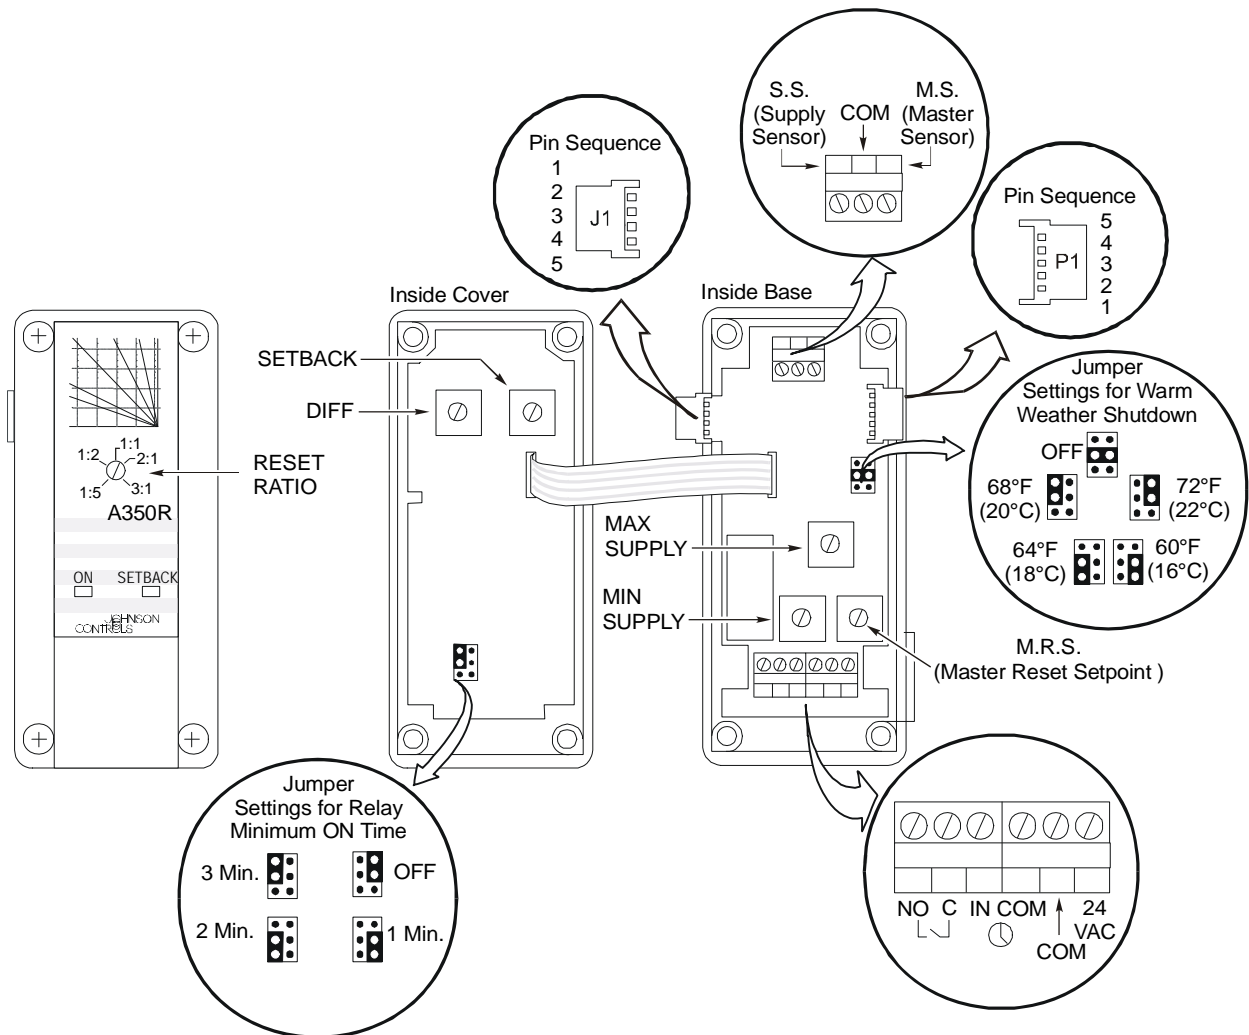

Figure 4: A350R Features
Reset ratio adjustment is made using the potentiometer marked RESET RATIO. Refer to Figure 4 for location.
Minimum supply temperature adjustment is made using the potentiometer marked MIN SUPPLY, and master reset setpoint adjustment is made using the potentiometer marked M.R.S. Refer to Figure 4 for locations.
Maximum supply temperature adjustment is made using the potentiometer marked MAX SUPPLY. Refer to Figure 4 for location.
The differential can be adjusted between 1 and 30°F (0.5 to 17°C). Adjustment is made using the potentiometer marked DIFF, as shown in Figure 4.
In addition to the differential, the relay operation is also affected by the selectable Minimum ON Time delay. Once the relay is energized, it remains energized until both the Minimum ON time has expired, and the supply temperature is equal to or greater than the calculated setpoint. The time delay applies only to the relay internal to the A350R. A jumper block, located on the cover mounted circuit board (refer to Figure 4), is used to select one of four minimum ON time delay settings: OFF, 1 min., 2 min., or 3 min.
A jumper block located on the base-mounted circuit board is used to select one of five shutdown settings. (Refer to Figure 4.) Available settings are OFF, 60°, 64°, 68°, and 72°F (OFF, 16°, 18°, 20°, and 22°C). Placing the jumper block horizontally across the center set of pins (OFF position) disables warm weather shutdown. As shipped from the factory, the warm weather shutdown feature is set to the OFF position.
When enabled, the Setback LED on the face of the A350R illuminates to indicate the control is operating in the setback mode. Setback is adjustable from 0 to 30F° (0 to 17C°) via the setback potentiometer located at the top of the cover-mounted circuit board. See Figure 4 for its location.
Consult Figures 4 and 6 for proper wiring and terminal designations.
The master and supply sensors must be connected to the 3-position terminal block located at the top of the base-mounted circuit board. (Refer to Figures 4 and 6.) The supply sensor connects to the S.S. and COM terminals. The master sensor connects to the COM and M.S. terminals. The sensors are not polarity sensitive.
- Various A99B Series Temperature Sensors and mounting hardware are available for use with A350 Series Controls. Refer to Tables 3 and 5 for further information. The sensors must be connected to the appropriate terminals on the terminal strip located at the top of the printed circuit board. (See Figures 4 and 6.) The sensors are not polarity sensitive.
1. Remove A350R cover by loosening the four captive cover screws. Refer to Figure 4.
- a. Connect a Digital Voltmeter (DVM) between the 24 VAC (+) and COM (-) terminals located at the bottom right side of the A350R (refer to Figure 4).